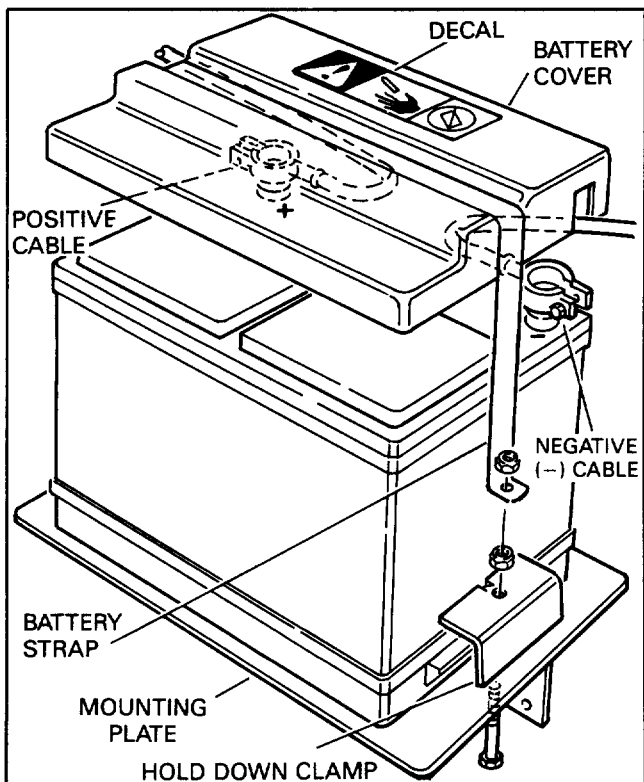

Figure 14
23. Install wheel (if removed) and tip unit down. Set battery onto mounting plate of snowthrower with battery posts toward the engine (Fig. 14).
24. Secure black (negative) battery cable to negative (-) battery post. Route cable so battery cover fits over cable (see Fig. 14) and tighten clamp.
25. Secure red (positive) battery cable to positive (+) battery post in proper position (see Fig. 14) and tighten cable clamp.
26. Install battery cover and secure battery to mounting plate with capscrews, battery hold down clamps and nuts. Install decal on battery cover (see Fig. 14).
27. Install battery strap onto battery cover, slide strap ends onto capscrews and secure with two nuts (Fig. 14).